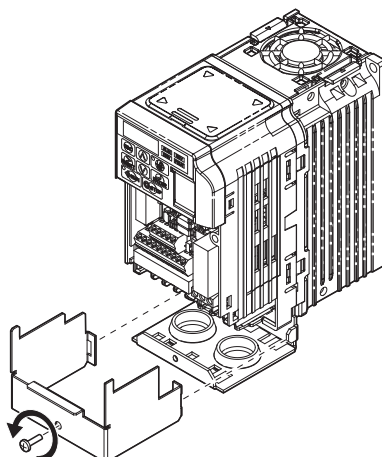

Figure 8 Remove the NEMA Type 1 Terminal Cover (CIMR-V□BA0001F to BA0003F, 2A0001F to 2A0006F)
- 6. For IP20/NEMA Type 1 enclosure models CIMR-V□□□A□□□□F, loosen the screw on the front of the NEMA Type 1 terminal cover and remove it from the drive. Refer to Figure 8 for details. Refer to Figure 9 for drive models CIMR-V□BA0006F to BA0018F, 2A0008F to 2A0069F, and 4A0001F to 4A0038F, which require removing the plastic terminal cover prior to removing the NEMA Type 1 terminal cover.